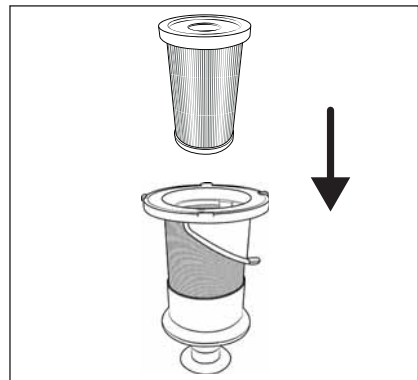

Fig. 22
- 7) Insert the HEPA filter **4** into the stainless steel filter **5** (see Fig. 22).